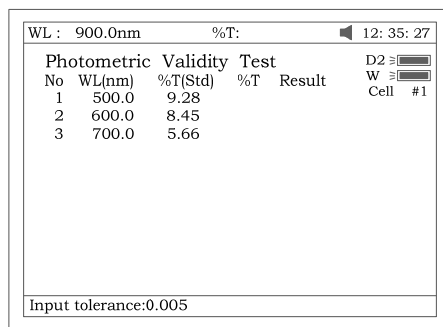

Fig 93
- Press **[F3]** to set tolerance (Fig 93). Input the value by pressing the numeric keypad.